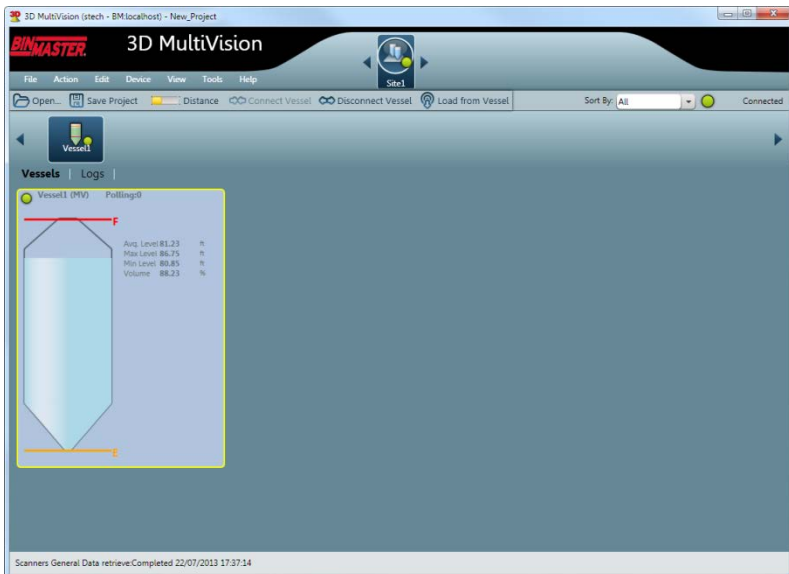

Figure 21: Project window
- 3 Enter the site name (limited to 16 characters), number of vessels in the site, and number of scanners in each vessel. Sites, vessels, and scanners can be edited later. Select the connection type between the 3DVision Server computer and the scanners in the site. Hart modem (limited to one scanner on a COM port), RS-485, TCP/IP, GPRS and GPRS+SMS connections are available. The very basic connection method id RS-485, select the serial COM port for the server PC connection. Click **Finish**. The new project is created and the Vessels and sites appear on the main screen (Figure 21). For more advanced connection methods, please refer Communication Methods on page 41.